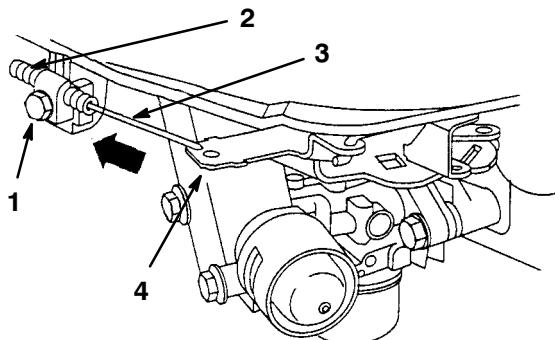

Figure 31
3. Loosen the cable clamp screw until the throttle cable slides (Fig. 31).
4. Move the governor control lever, the throttle cable, and the casing in the direction of the arrow as far as possible (Fig. 31).